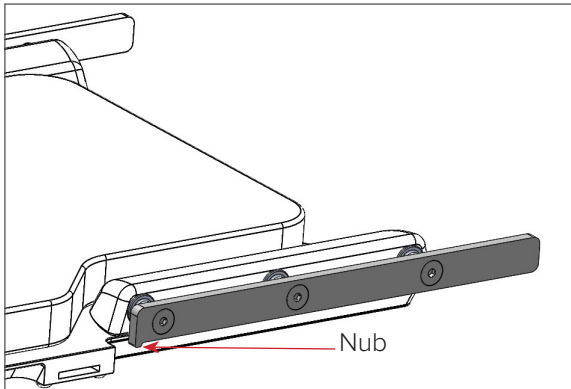

Fig. 1: Right Rail
- Using the 6 mm Hex Key, remove the six (6) flat head screws in Figures 1 and 2 that fasten the existing rails onto the Lithotomy AirShuttle.
- Position the new rail in place and loosely fasten all three (3) screws. Refer to images below for correct placement as indicated by the location and orientation of the nub at one end of each rail.